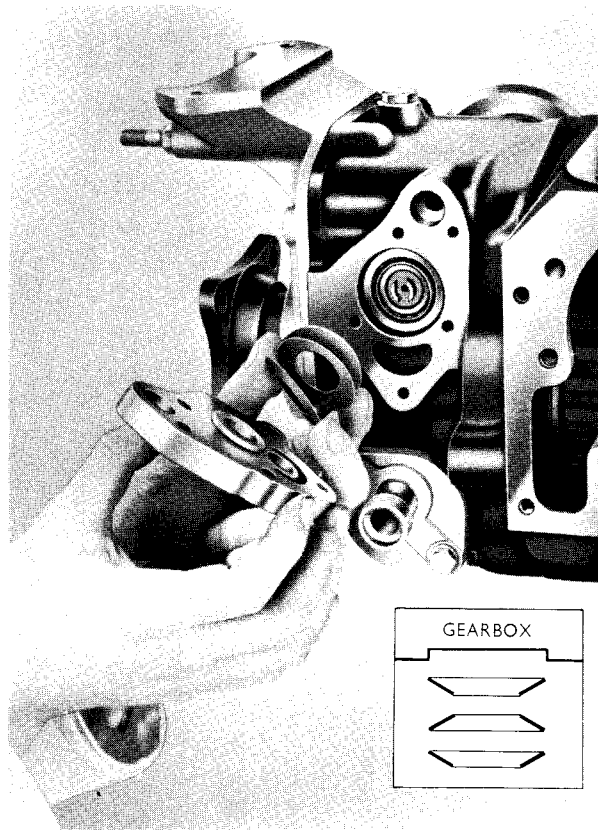
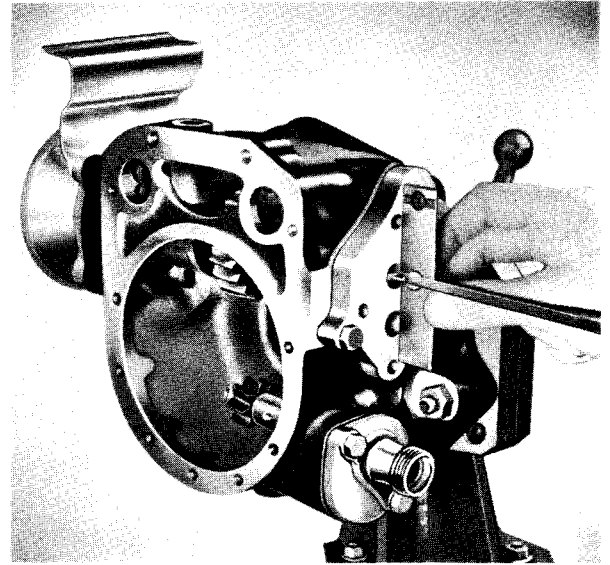

Fig. 4 Refitting intermediate plate
Fig. 5 Checking driving key clearance
- (1) Temporarily refit the intermediate plate with the distance piece and dished-spring washers as shown in fig. 4. Fully tighten both the securing setscrews.
- (2) Rotate the drive shaft until the slot from the key is horizontal.
- (3) Insert the driving key, and pressing it fully home measure the clearance between the end of the driving blade and the outer surface of the intermediate plate (fig. 5).